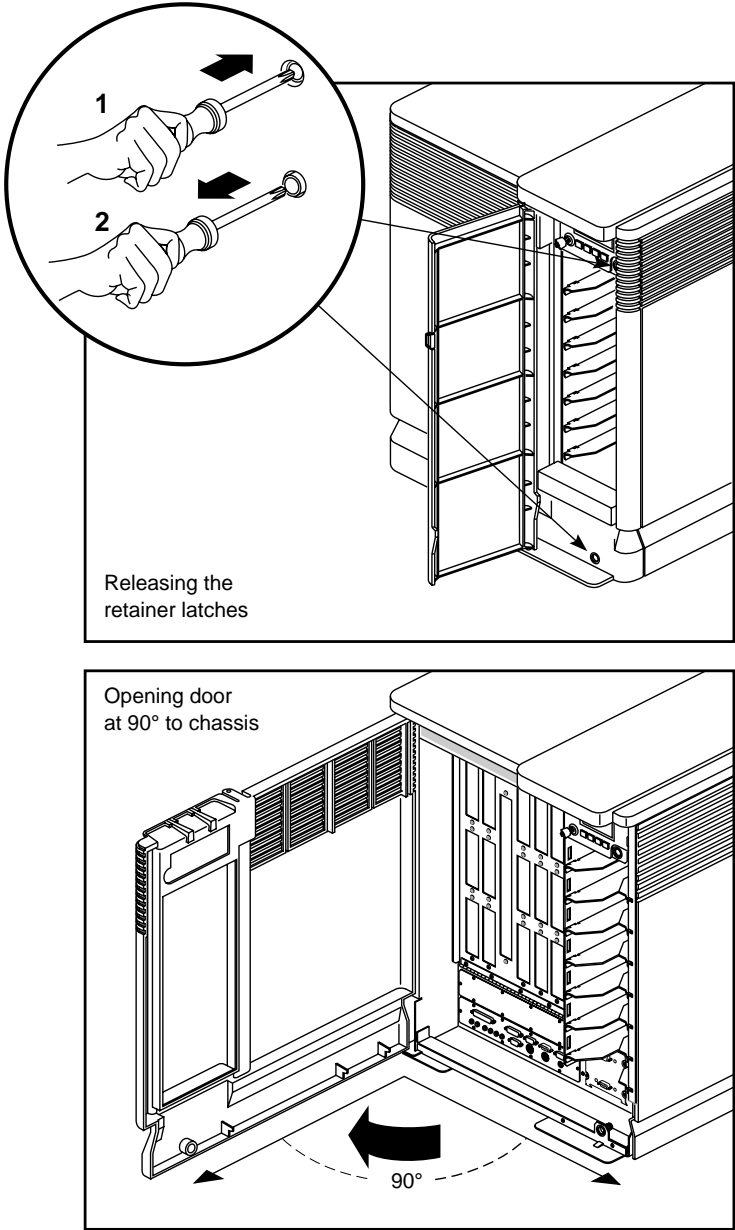

Figure 3-2 Opening the Chassis Front Door
3. Release the two retainer latches by fully depressing and releasing each latch with a pointed object, such as the tip of a Phillips screwdriver; be careful not to mar the surface. The pointed object must be narrow enough to depress the inner button completely; Figure 3-2 shows the latch location and operation.